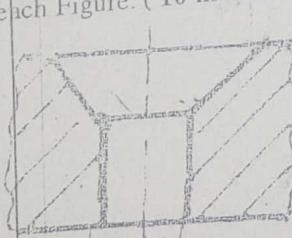

Figure 18
h) Figures 18, 19, 20, 21 and 22 show different machining operations, write the name of operation to each Figure. (10 marks)